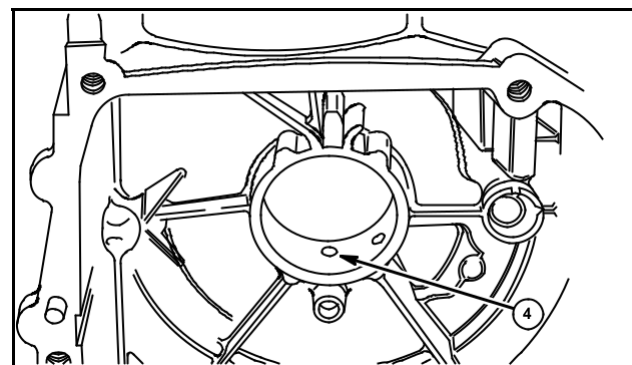

Fig. 10
NOTE: On Model Series 171700, 191700, magneto bearing replacement, place bushing against inside of cylinder with notch in line with oil hole in cylinder (4) and against reamed out bearing. Note position of split in bearing. With a chisel or a screwdriver and a hammer, make a notch on inside edge of reamed out bearing opposite split, Fig. 10.